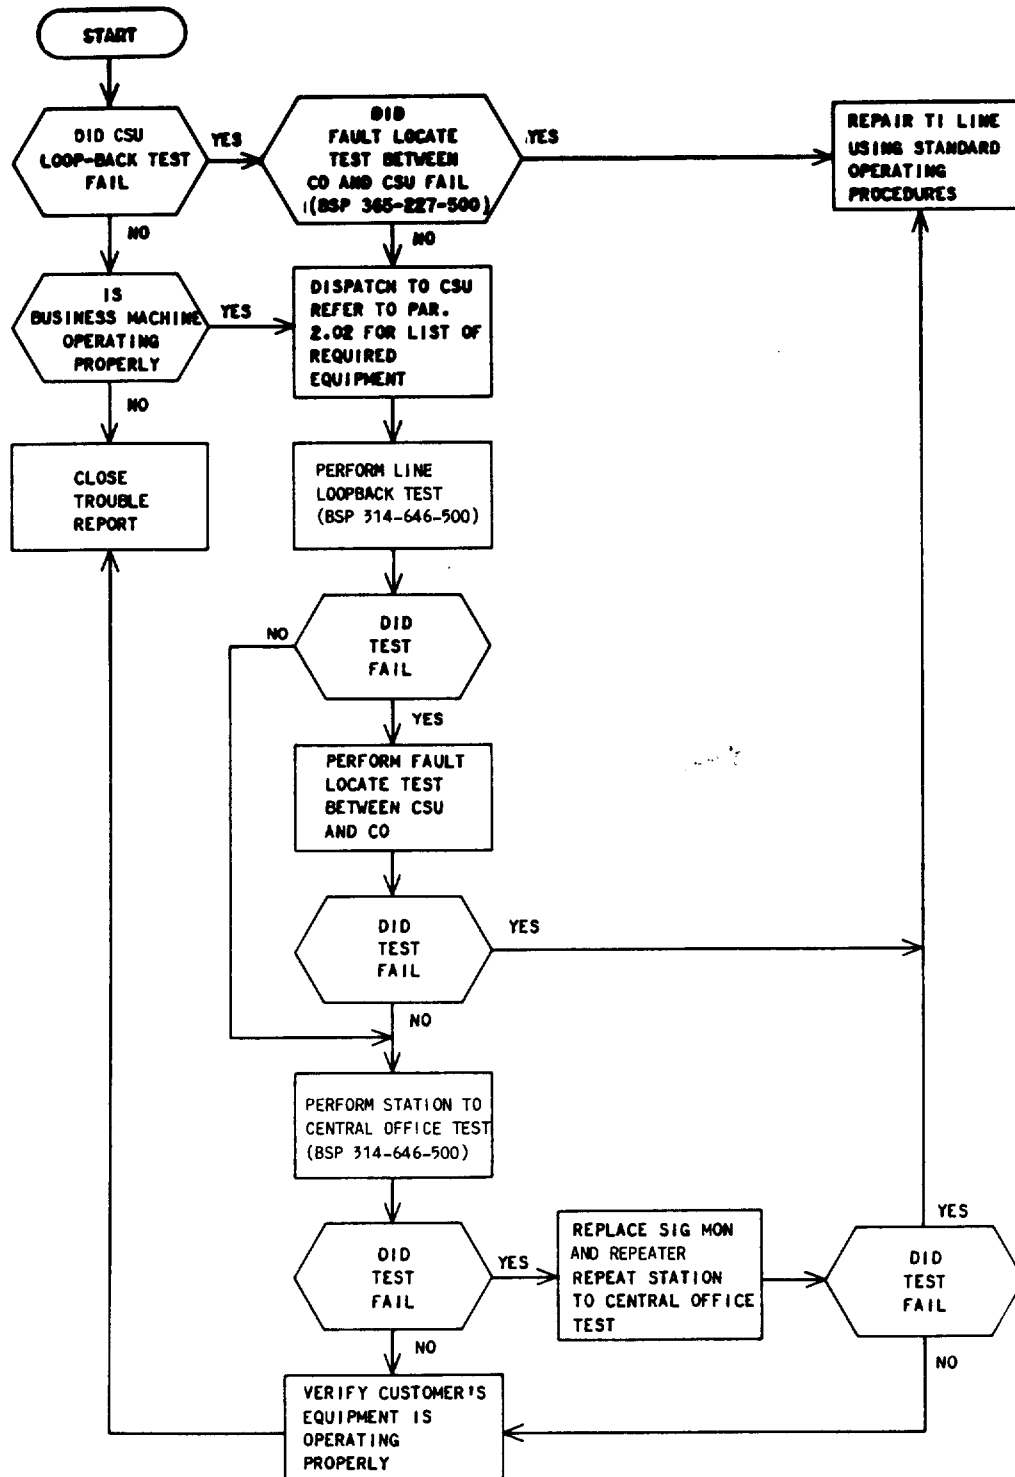

Fig. 1—CSU Trouble Isolation
2.01 When investigating a trouble report, proceed as directed by Fig. 1. Refer to Section 314-646-500 for the test procedures applicable to the CSU.